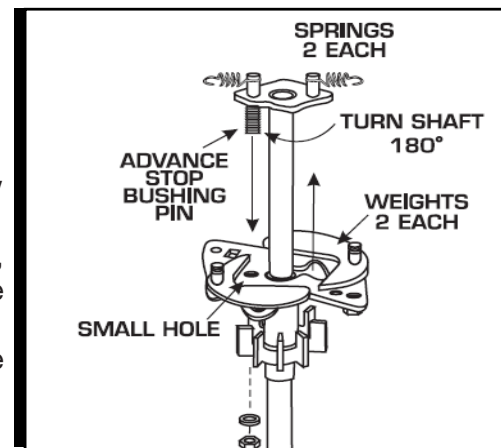

Figure 4 Locking Out the Advance.
- d. Rotate the shaft 180° and insert the advance stop bushing pin into the small hole on the advance plate (Figure 4).